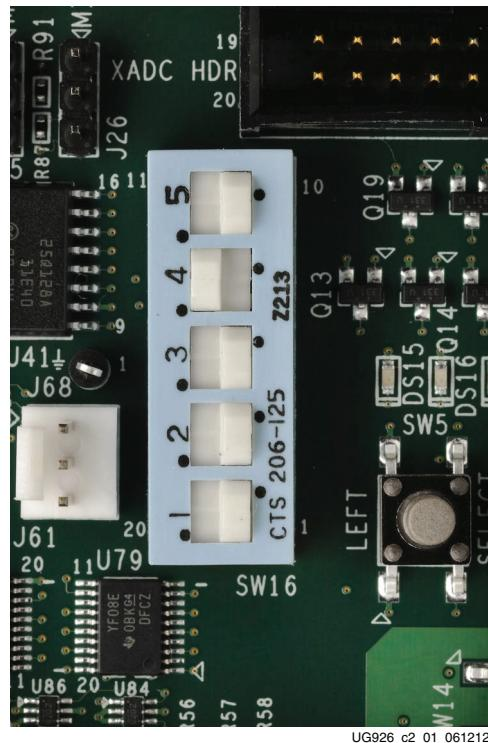

Figure 2-1: Settings for the Mode Switch to Boot from Quad SPI Mode
1. Set the SW16 switch as shown in Figure 2-1, where position 1, 2, 3, and 5 are switched to the right and position 4 is switched to the left for the BIST to boot from Quad SPI device and run the system demonstration utility.
1. Be sure to have the SW16 Mode switch settings set to those shown in Figure 2-1.